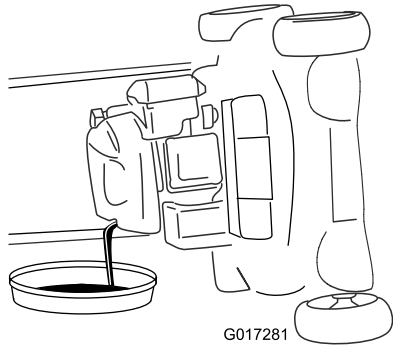

Figure 30
4. Tip the machine onto its side (so that the air filter is up) to drain the used oil from the oil-fill tube (Figure 30).